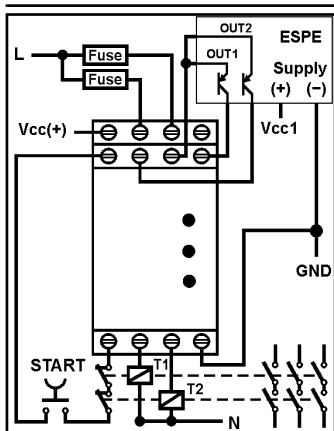

Fig. 7: ESPE: 2 uscite PNP a 2 fili /
- ESPE with two PNP two-wires outputs (e.g. optocoupled PNP-type): connect both emitter outputs to the S22 terminal and the collector outputs to the S12 and S21 terminal, leaving S11 not connected (fig. 7, max. Safety cat. 4).
In Fig. 7 and 8 are shown the connections of ESPE with 2 two-wires outputs: one ESPE common point is connected to S22, while the outputs are connected to S12 and S21. The category of the application can reach up to category 4